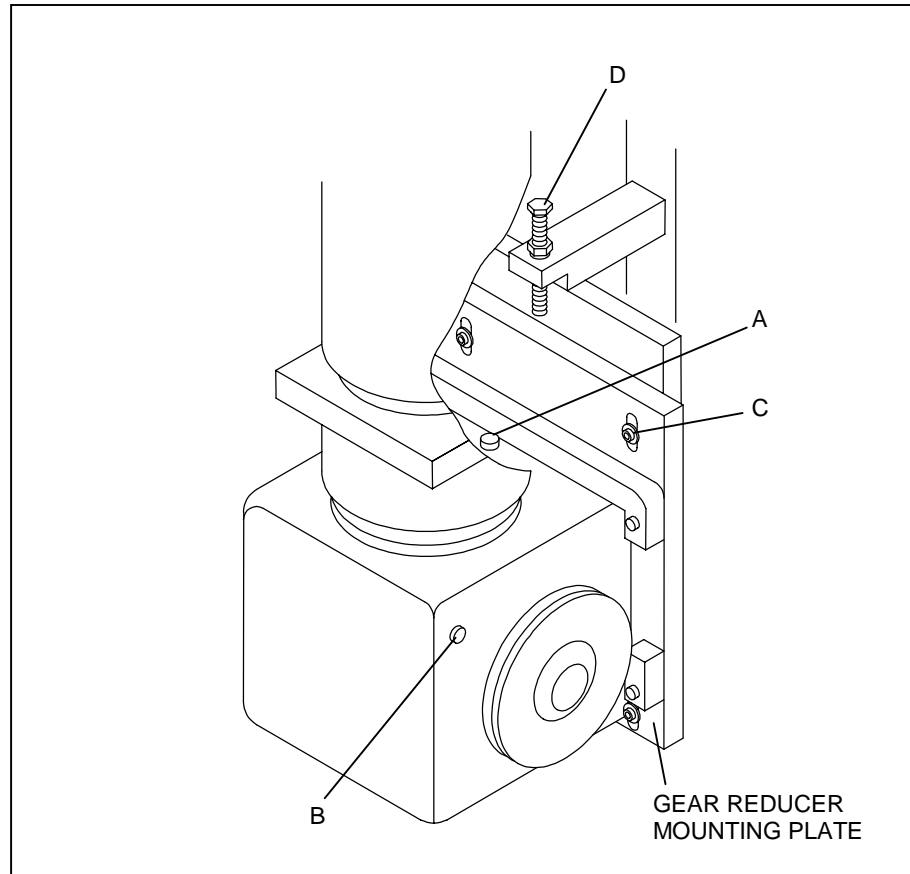

Figure 24. GEAR MOTOR ADJUSTMENTS
1. Remove plugs A and B in the gear reducer (see Figure 24).
5. Loosen the four bolts (C) on the gear reducer mounting plate.
7. Loosen the jam nut on jack bolt (D) and tighten the bolt until drive chain deflection is one inch or less. Tighten the jam nut and mounting plate bolts.